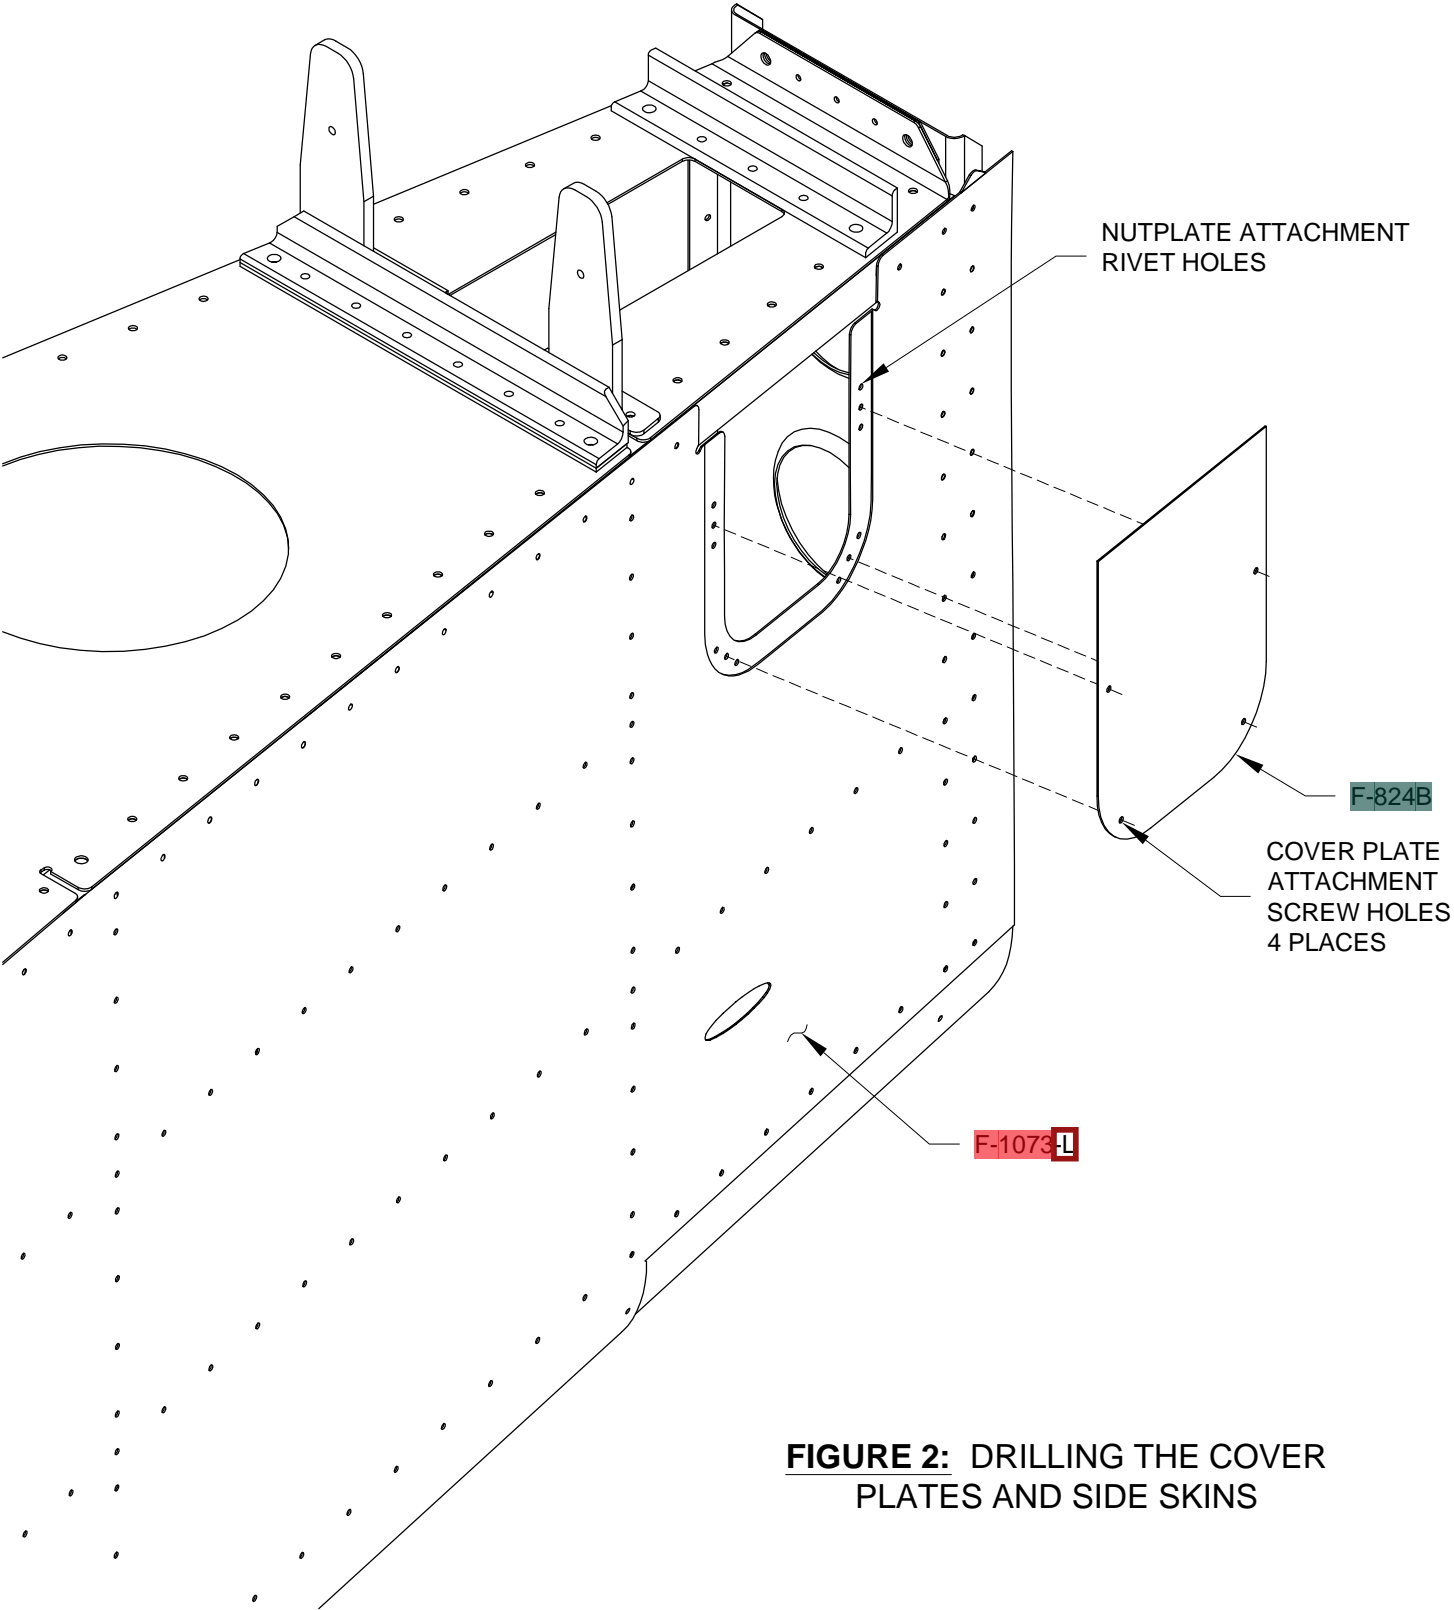

FIGURE 2: DRILLING THE COVER PLATES AND SIDE SKINS
Step 4: Final-Drill the four attachment holes, shown in Figure 2, in the two F-824B Cover Plates and the corresponding holes in the F-1073 Side Skins using a #28 drill.
Step 1: The triangular portion on the forward end of the F-1073-R Side Skin needs to be trimmed in Step 3. At this point, draw a trim line on the side skin as shown in Figure 2. Make sure the trim line clears the F-1006B Bulkhead flange.